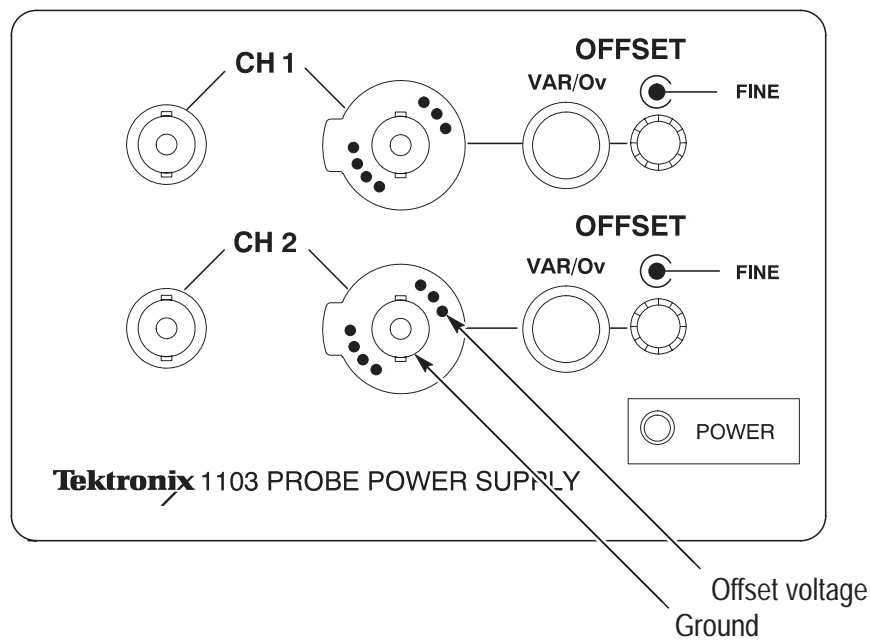

Figure 16: 1103 power supply offset voltage location
2. Using a DMM, adjust the 1103 offset voltage to -0.5 V. Refer to Figure 16 for the location of the offset voltage test point.